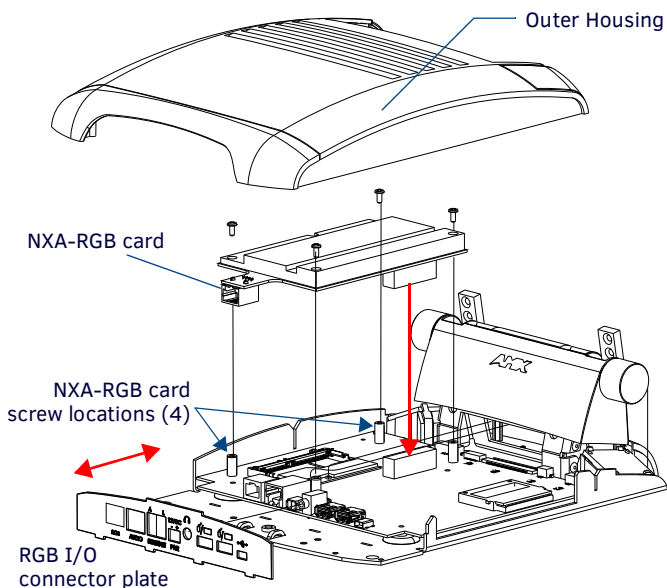

FIG. 19 Location of the NXA-RGB card and I/O plate
6. *In a single motion*, carefully pull the outer housing up and then out (away from the LCD panel) to expose the internal circuit board (FIG. 19). *The NXA-RGB card is available within both the optional RGB Kit and NXA-RGBKIT upgrade.*
3. With the components securely installed, tilt the LCD back to a 45° and then gently slide-on the outer housing (towards the LCD) until it is aligned over the installation holes and the tilt bracket prevents any further forward movement (FIG. 19).